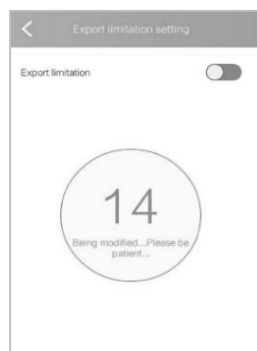
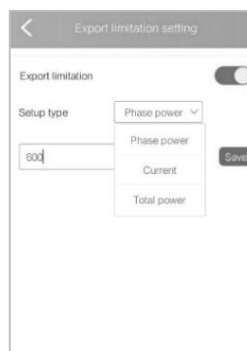

Figure 6.3 Countdown interface
Figure 6.4 Power limit/Current limit setting
(4) Turn on "export limitation", Wait for 15s countdown seconds to set successfully, supply the power mode and current mode, as shown in Figure 6.3 and Figure 6.4